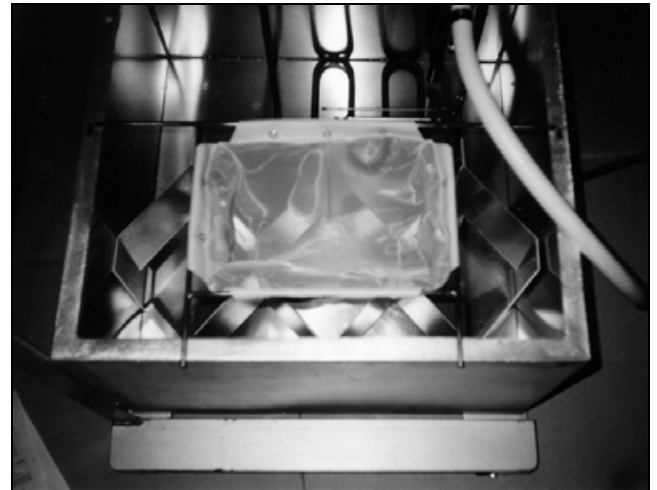

Figure 2-7. Positioning the Filter Assembly for Filtering.
4. Position the shortening filter assembly on the EZ Melt kettle. The edge of the kettle has one or two sets of holes in it. Use the set of holes that is farther from the heater head. When two of the filter frame's pins rest in these holes, the filter assembly rests horizontally on the end of the kettle. (See Figure 2-7.)